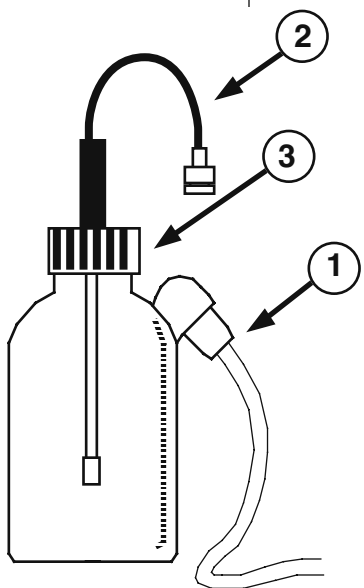

Fig. 15—Plastic calibration bottle
After polarization of the ISO-OXY-2 is complete, a calibration for zero percent oxygen may be carried out in pure nitrogen gas or in water saturated with nitrogen. With stirring, the complete saturation of water with nitrogen may take more than ten minutes. Calibration in pure nitrogen gas is much faster and generally considered more reliable. A plastic calibration bottle (**Fig. 15**) is supplied with the utility kit. Connect a plastic tube ① from the side tube to a pure nitrogen gas source at a low pressure (less than 5PSI) and purge the bottle continuously with nitrogen gas. Insert the ISO-OXY-2 ② into the bottle through the top vent hole on the bottle cap ③. The current should be observed to drop rapidly in a few seconds to a low stable value, typically less than 10nA. After stable values are observed, the sensor can be calibrated by measuring at least one more known concentration of oxygen.